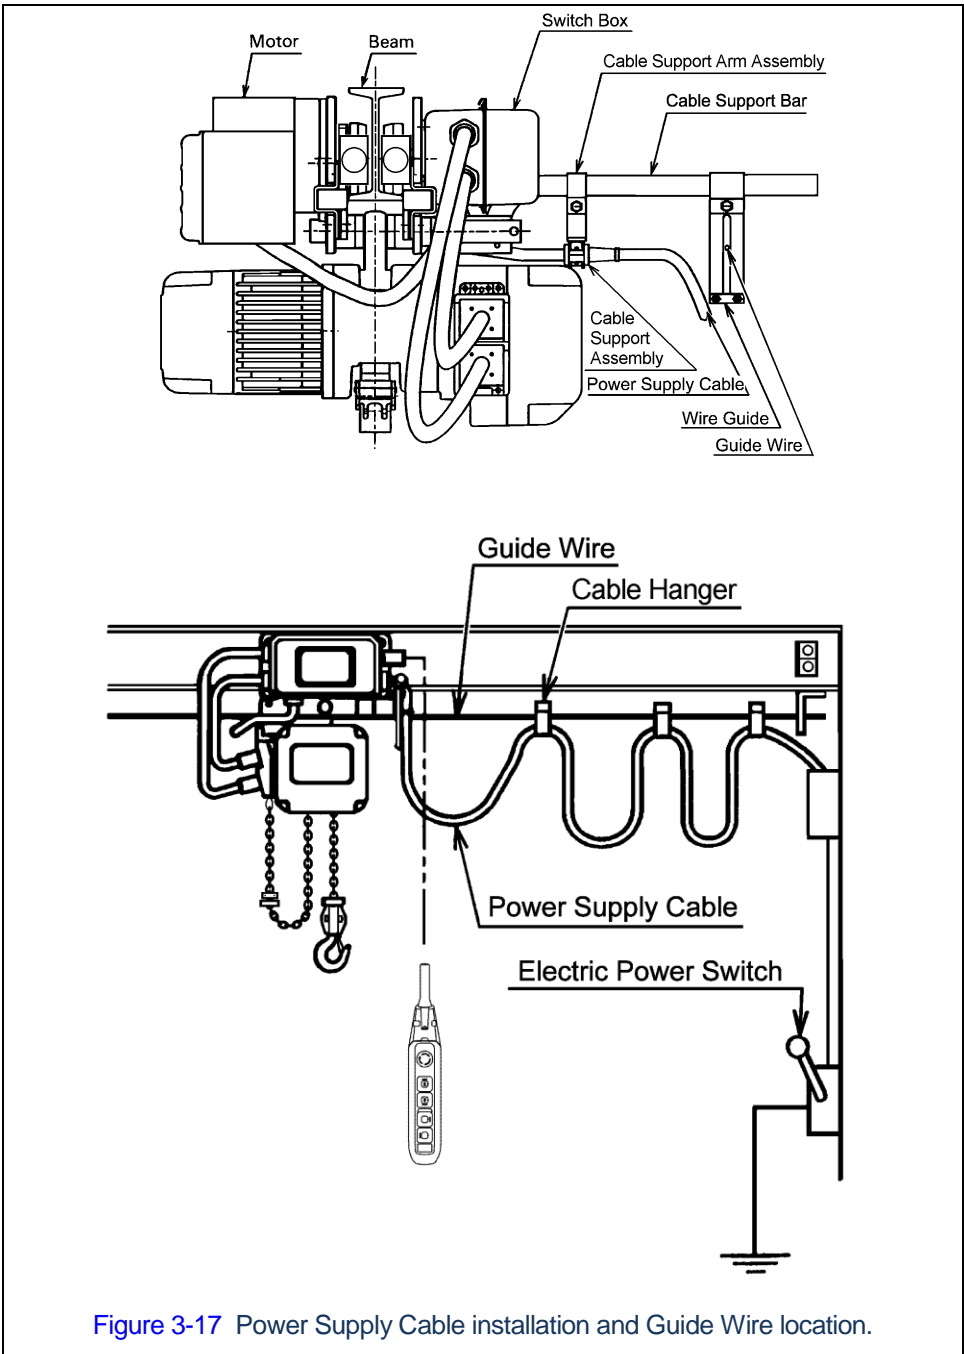

Figure 3-17 Power Supply Cable installation and Guide Wire location.
- 4) Install the Cable Support Assembly (pre-installed on the Power Supply Cable) onto the Cable Support Arm Assembly as shown in Figure 3-17.
- 1) Refer to Figure 3-17.